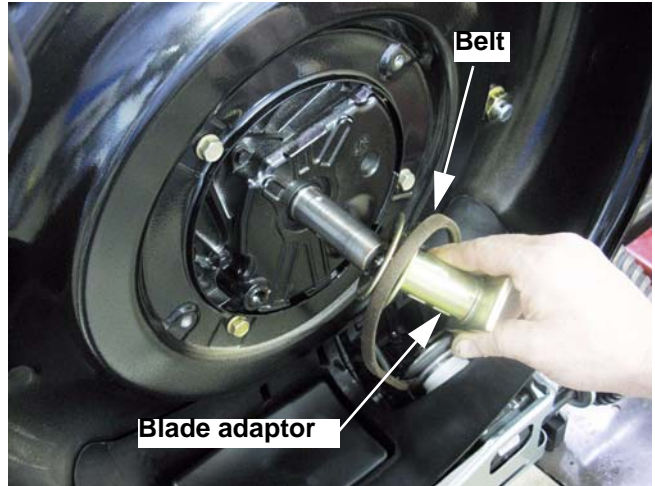

Figure 2.8
- Slide the blade adaptor / drive pulley off of the crankshaft. The belt will come off with it. See Figure 2.8.